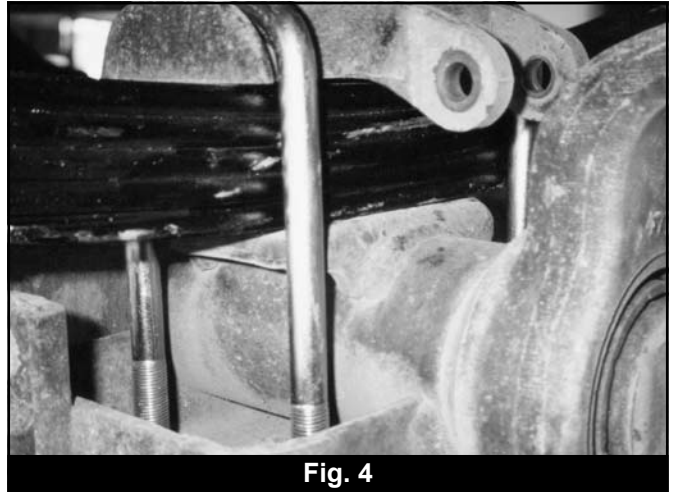

Fig. 4
12. Raise the axle with a floor jack and install the OE top u-bolt plate. Install the new u-bolts to retain the spring to the axle. Torque to 100-120 ft/lbs. (Fig. 4)